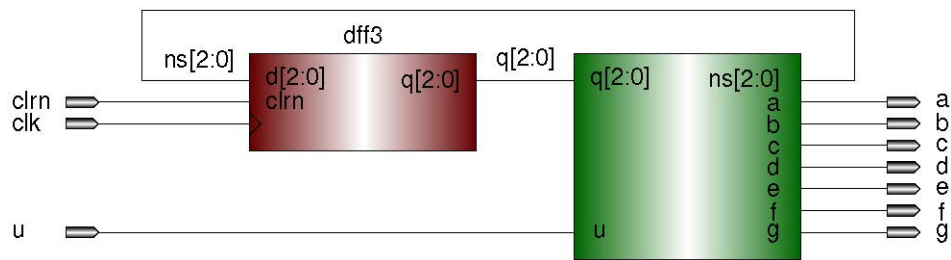

Figure 2 Block diagram of a counter with a seven segment LED
3. There are six states, the circuit of the counter is shown in Figure 2. The module of dff3 contains three DFFs. The other module is a combinational circuit that generates signals of the next state ( $ns[2:0]$ ) and LED control signals ( $a, b, c, d, e, f$ , and  $g$ ). The current state (the outputs of dff3) is denoted with  $q[2:0]$ .